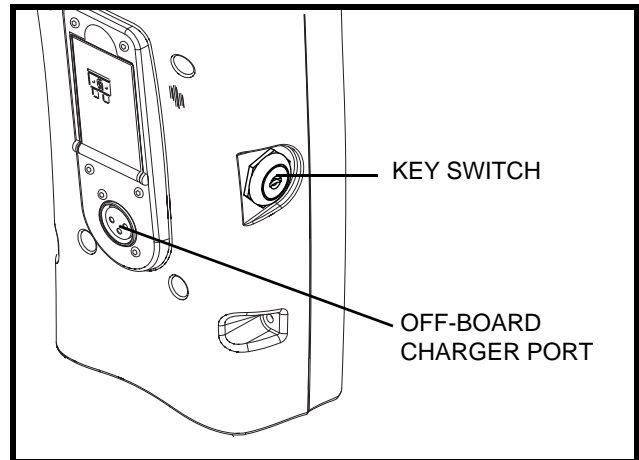

Figure 6. Off-board Charger Port (Tiller Mounted)
The off-board charger power lead plugs into this port during battery charging. The off-board charger port will be located on the tiller. **See figure 6.**
4. Plug the 3-pin charger power lead into the off-board charger port. **See figures 6 and 11.**